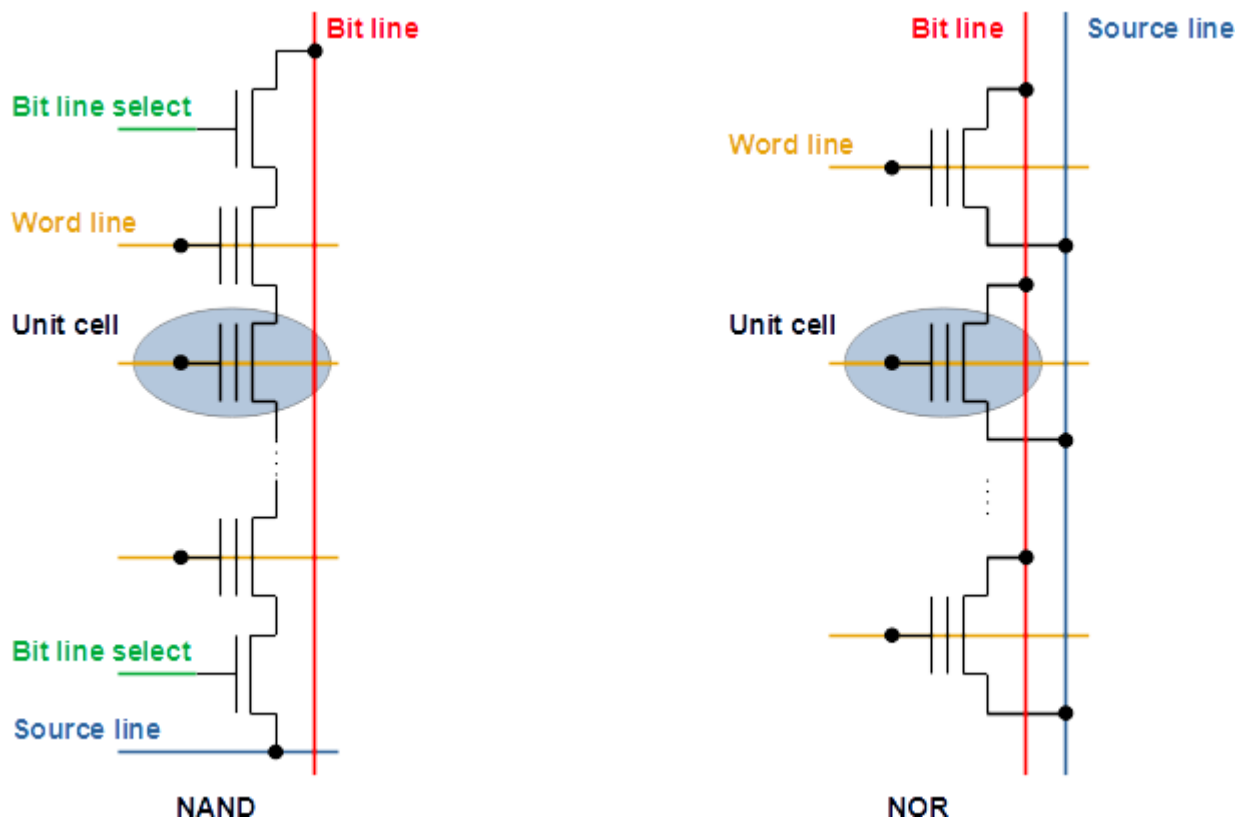

Figure 1: NAND flash vs. NOR flash cell comparison.
- NOR flash and NAND flash **cell difference** (see Figure 1):